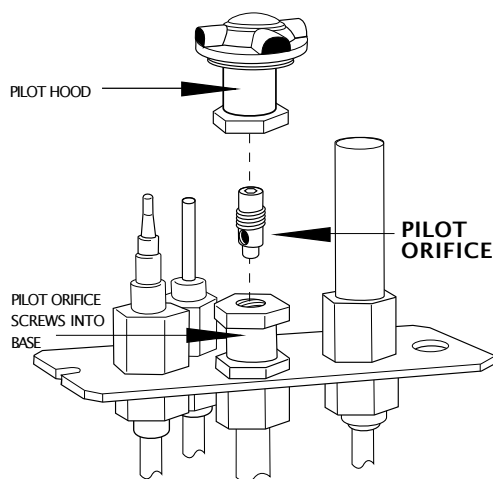

Figure 3.
- Change the pilot orifice. FROM WITHIN THE FIREBOX, PULL THE PILOT HOOD OFF THE PILOT ASSEMBLY. Using a 4mm allen wrench thread out the pilot orifice (counter clockwise). Replace with the appropriate orifice: See Figure 3.